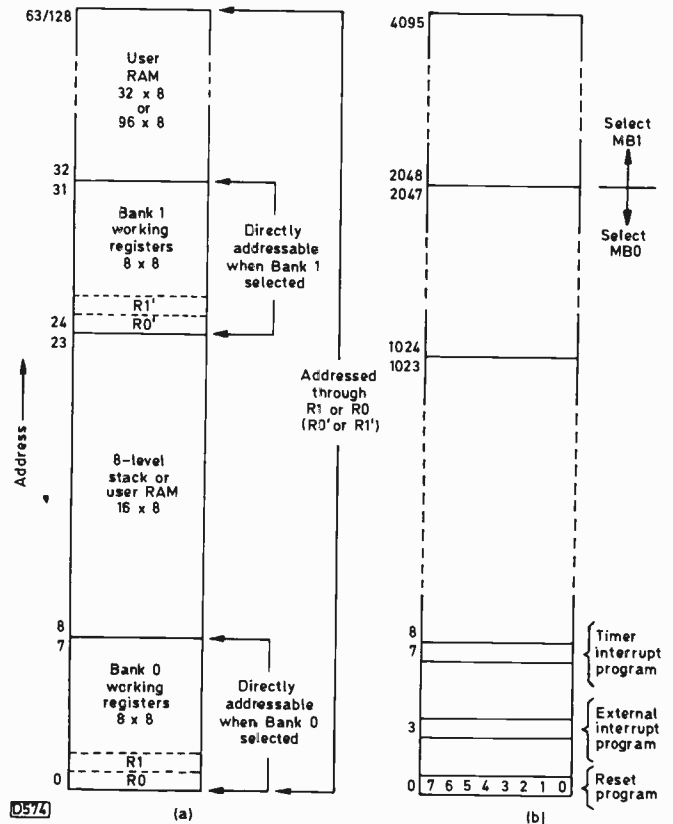

Fig. 7: Memory maps for a 48 series chip, (a) data memory, (b) program memory.
To understand software operation it's necessary to take a look at the memory map for the 8048/9 (see Fig. 7). The data memory is arranged as three blocks plus the RAM. There are two register banks, R0 to R7 and R0' to R7'. These are directly addressable by instruction, but it's first necessary to select the required register bank (RB) – RB0 for R0 to R7, RB1 for R0' to R7'. A further block comprises an eight-level "stack" which stores return addresses generated by subroutine calls and interrupts. The